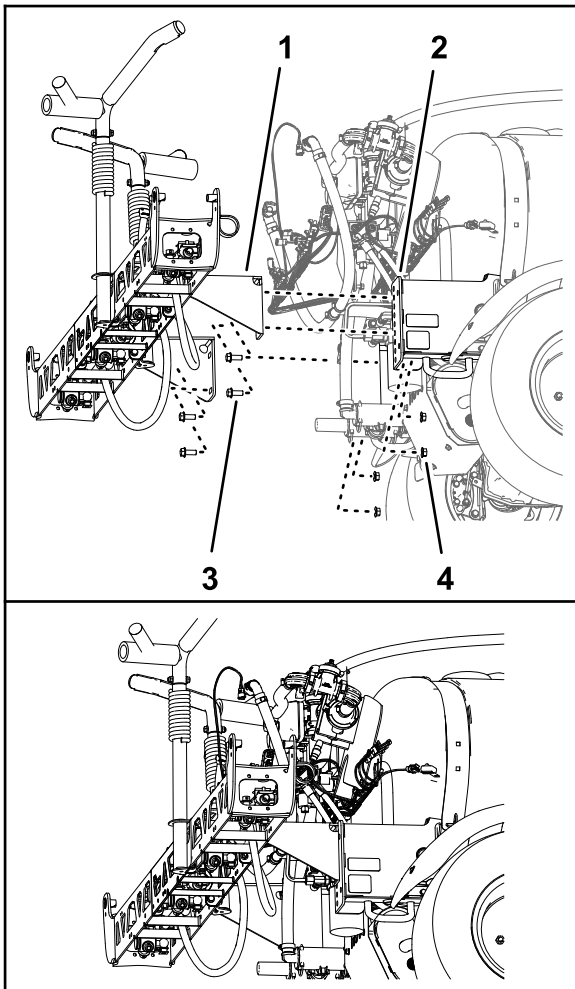

Figure 95
1. Using lifting equipment with the specified lift capacity, raise the center-spray section and align the holes in the support bracket for the spray section (Figure 95) with the holes in the mounting plate for the frame of the machine that you identified in step 3 of Removing the Center-Spray Section \(page 25\).
2. Assemble the center-spray section to the mounting channels (Figure 95) with the 4 flange-head bolt (1/2 x 1-1/4 inches) and 4 flange locknut (1/2 inch) that you removed in step 4 in Removing the Center-Spray Section (page 25).